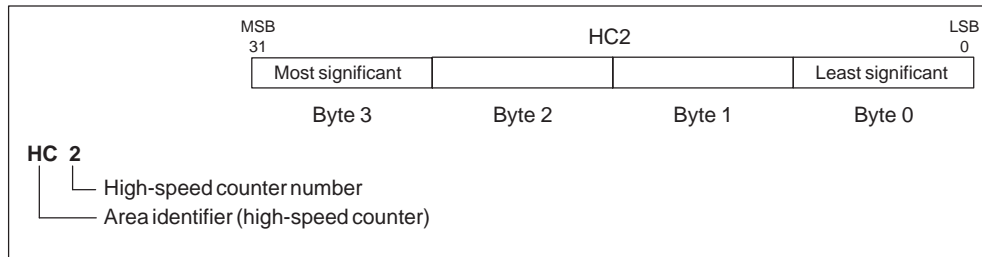

Figure 9-17 Accessing the High-Speed Counter Current Values
To access the count value for the high-speed counter, you specify the address of the high-speed counter, using the memory type (HC) and the counter number (such as HC0). The current value of the high-speed counter is a read-only value and can be addressed only as a double word (32 bits), as shown in Figure 9-17.